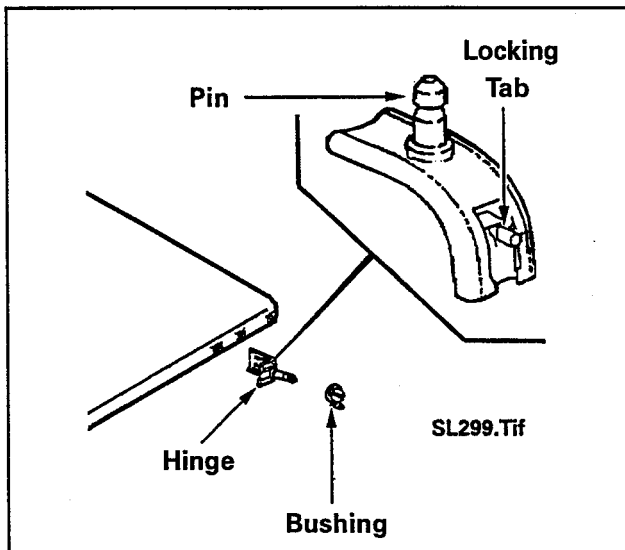

Figure 4-12
2. Locate the left hinge and lift the locking tab in the center of the hinge from the locating hole in rear edge of the lid (*Figure 4-12*).
3. Gently pry the hinge toward the center of the lid. This will draw the pin of the hinge out of the bushing in the top cover (*Figure 4-12*).